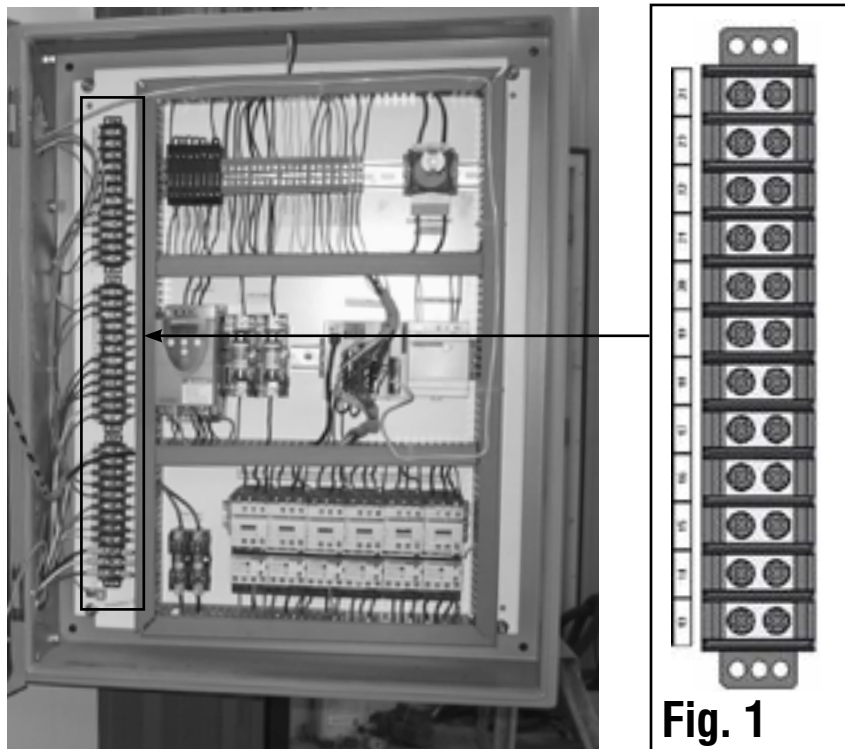

Fig. 1
1. Install +24VAC, 2A from a 24VDC power source to terminal #21, Figure 1.
2. Install wire from terminal #19, Figure 1, to users' alarm system.